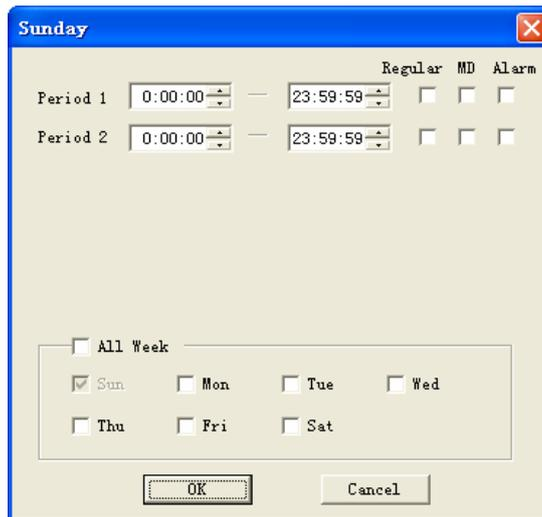

Figure 7-35
- Time period: Click set button, you can an interface as in Figure 7-35. You can check the box to select the file type. System supports multiple choices.